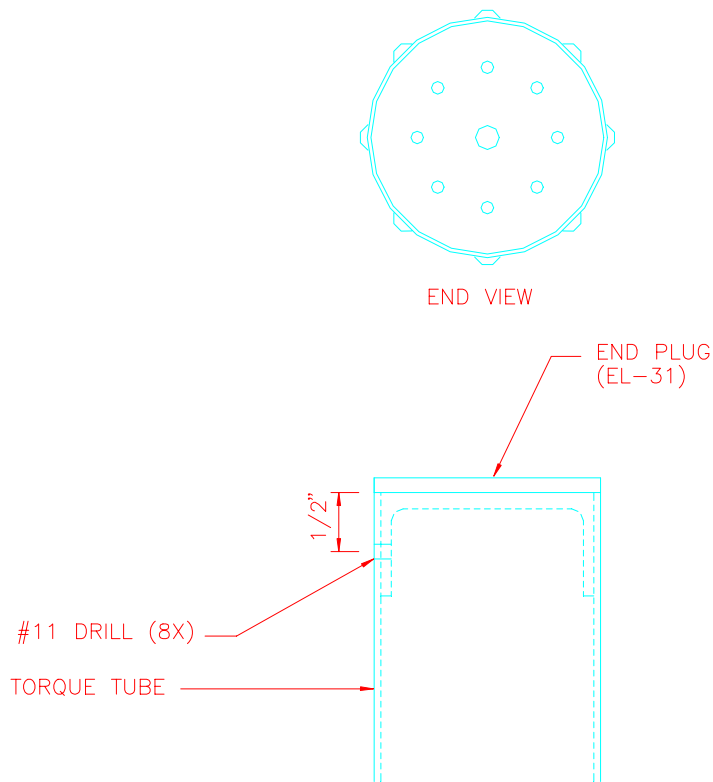

Figure 15.9.5
- 17) Place the end plugs into the matching torque tubes. Line up the #40 holes and cleco. Layout and drill a total of eight #11 holes through torque tube and end plug. Figure 15.9.5.